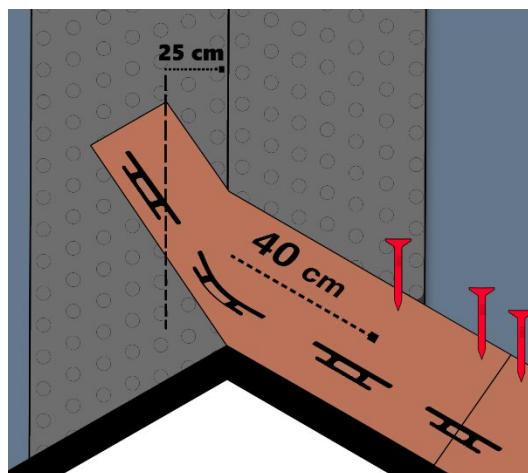

Fig. 12 - Shingles installation at valleys
- As for the roof valleys, prepare a band of bituminous membrane about 100cm wide, applied by torch in advance, to ensure its waterproofing - Fig. 12.
- Install the starting row and the shingles of the first pitch, making them rise 25 cm above the valley line. It is advisable to cut the shingle, once installed, following a parallel line to the valley at 25cm. The shingles should be fixed by torch where there is the bituminous membrane and by nail in the remaining part. Do not nail the shingles less than 40 cm from the valley line - Fig. 12.